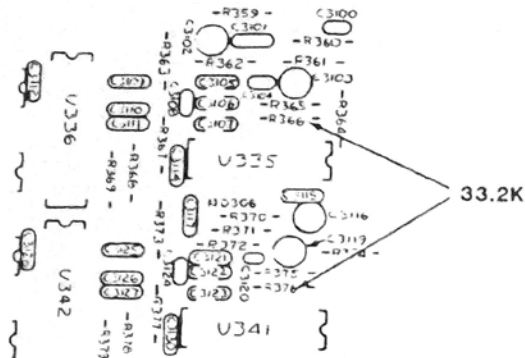

Figure 0.9
1. Eight resistors in the filter circuits changed from 33.2k to 42.2k. Update kit UD2000-1 covers this mod. Note that this update affects the filtering of samples, and presets may need adjustment. For location of these resistors, see Figure 0.9, below. (Model 876 factory preset disks are intended for operation with updated units, and are supplied with UD2000-1.)